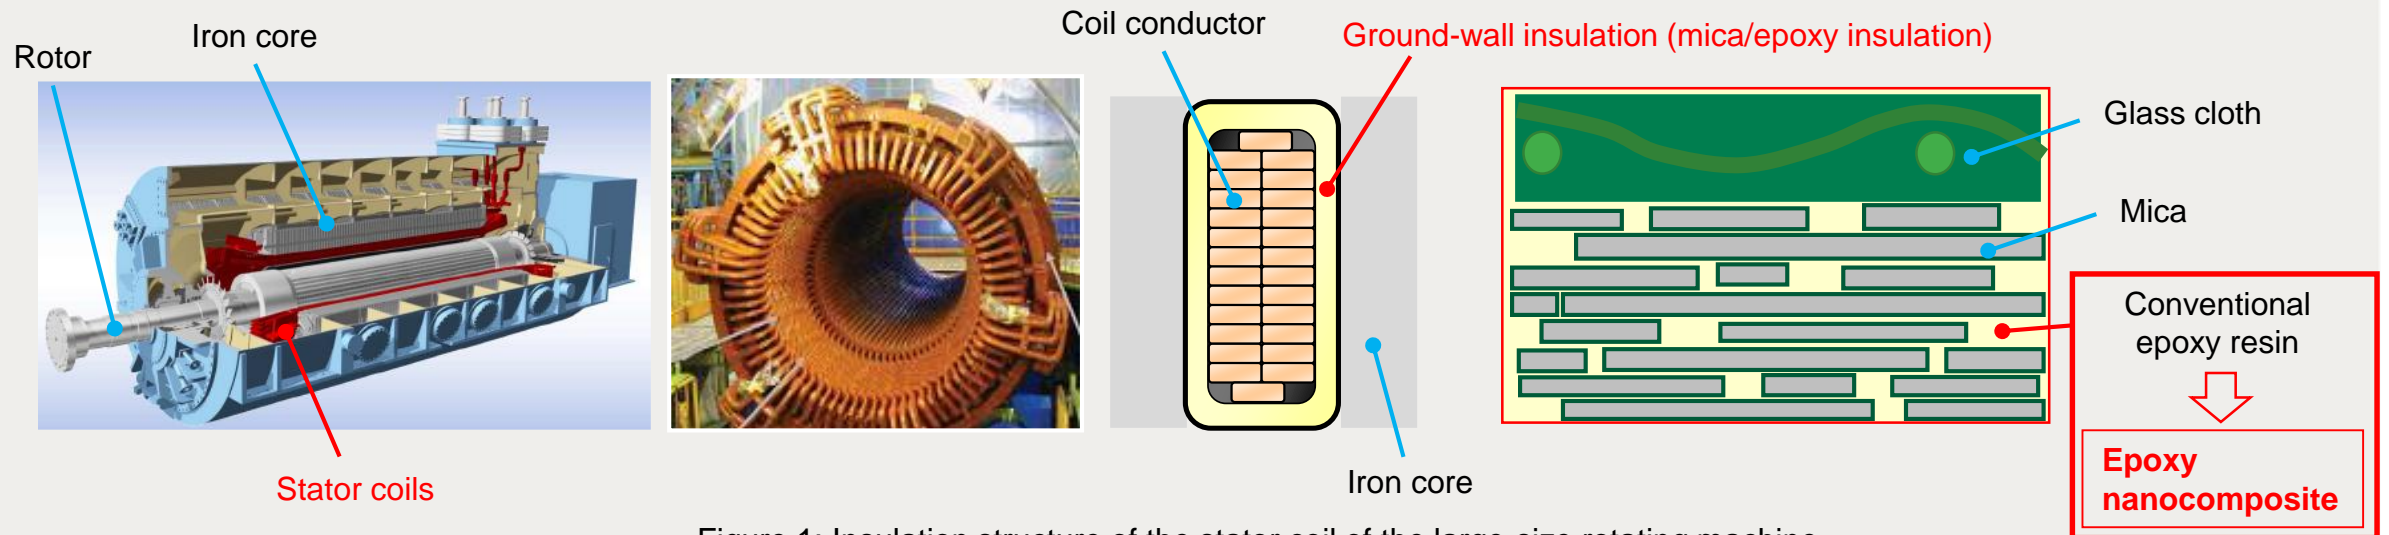

Figure 1: Insulation structure of the stator coil of the large-size rotating machine.
- In a part of our project, nanocomposites are being developed for the new insulating materials of stator coils of **large-size rotating machines on the premise of commercialization** (Figure 1).